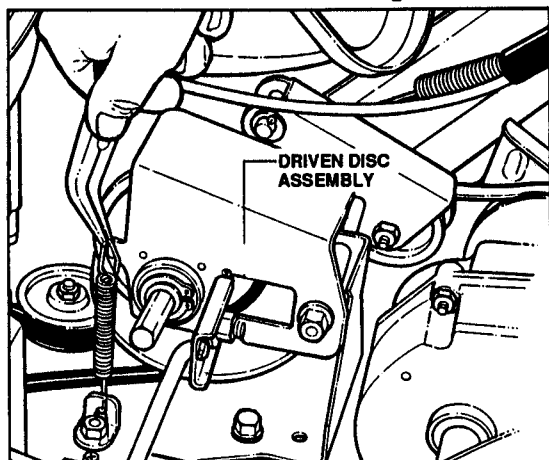

FIGURE 3.16
- (b) Using needle nose pliers, unhook the drive spring and slide the driven disc assembly off the hex shaft. See Figure 3.16.